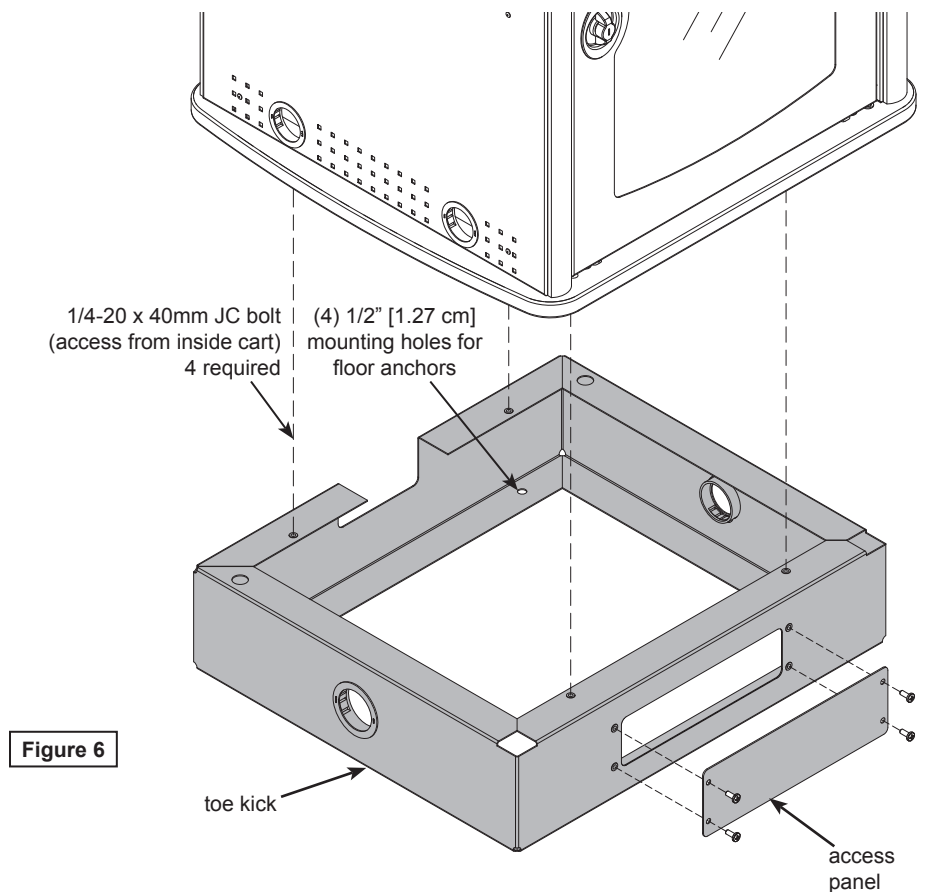

Figure 6
2. Carefully lift the cart off the toe kick and set aside. This will require several people. **Figure 6.**
3. Determine and locate the toe kick into its final position on the floor and mark the (4) mounting hole locations on the floor. (The toe kick mounting holes are 1/2" dia.)
5. Carefully lift the cart back onto the toe kick and align the (4) mounting holes.